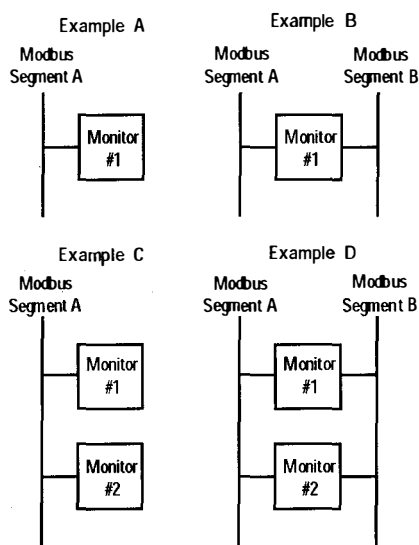

Figure 14. Valid Modbus Monitor network architectures.
10. Modbus Monitors (dual-port version) may not be wired in any configuration other than the four shown in Figure 14. Although the Monitor's RS-485 ports have separate addresses, you may **NOT** wire the same Modbus network to both ports. A two-port Modbus Monitor must be wired to **two separate** Modbus networks.